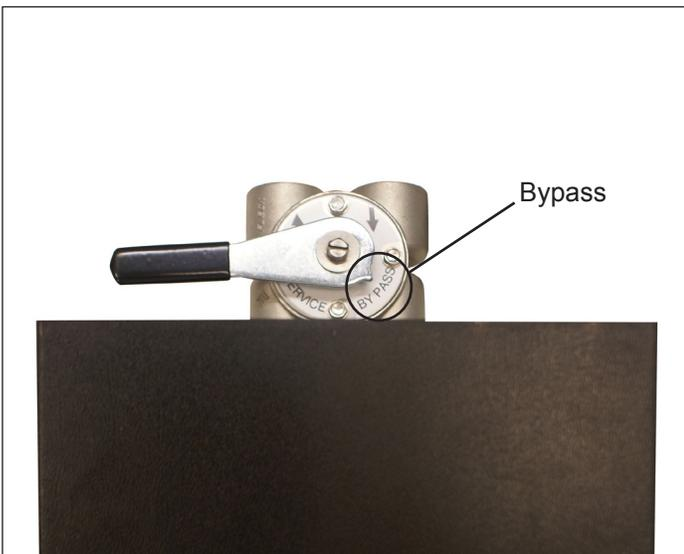

Figure 2. Bypass
1. Place the bypass valve in BYPASS by turning the valve handle to indicate BYPASS. The handle will be across the valve body, not in line with the inlet and outlet plumbing connections. See Figure 2.